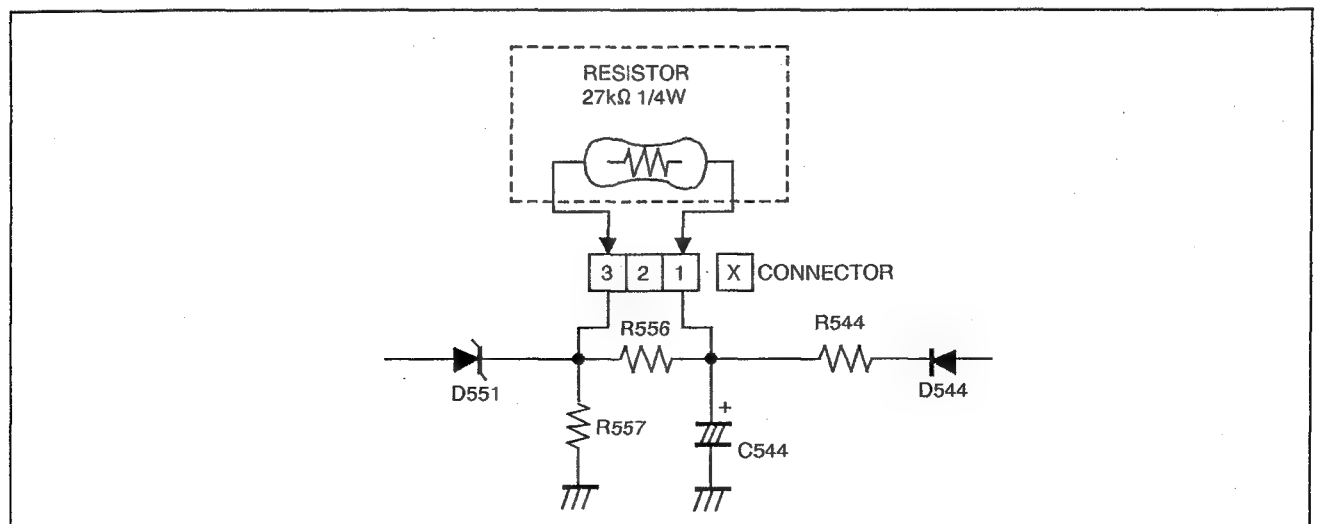

Fig. 2
- (1) Turn the POWER SW ON.
- (2) As shown in Fig. 2, set the resistor (between X connector 1 & 3).
- (3) Make sure that the screen picture disappears.
- (4) Temporarily unplug the power cord.
- (5) Remove the resistor (between X connector 1 & 3).
- (6) Again plug the power cord, make sure that the normal picture is displayed on the screen.